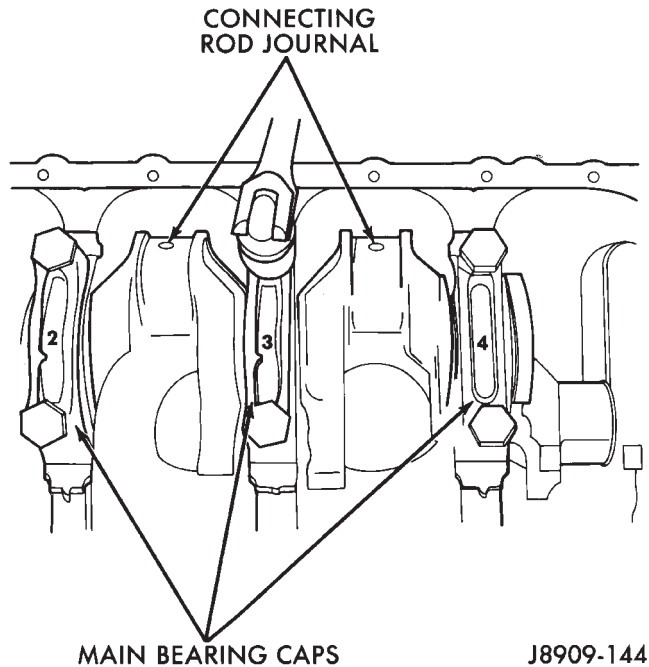
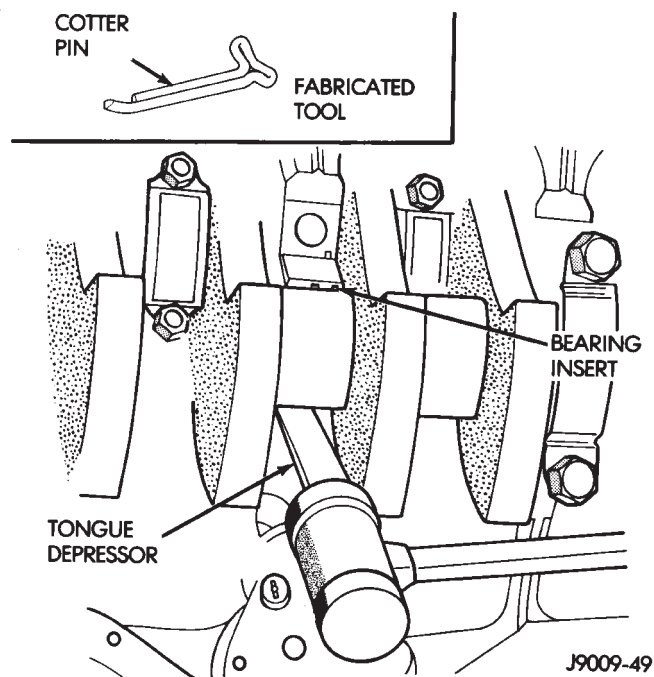

Fig. 54 Removing Main Bearing Caps and Lower Inserts
Fig. 55 Removing Upper Inserts
(1) Disconnect negative cable from battery.
(2) Remove the spark plugs.
(3) Raise the vehicle.
(4) Remove the oil pan and oil pump.
(5) Remove only one main bearing cap and lower insert at a time (Fig. 54).
(6) Remove the lower insert from the bearing cap.
(7) Remove the upper insert by LOOSENING (DO NOT REMOVE) all of the other bearing caps. Now insert a small cotter pin tool in the crankshaft journal oil hole. Bend the cotter pin as illustrated to fabricate the tool (Fig. 55). With the cotter pin tool in place, rotate the crankshaft so that the upper bearing insert will rotate in the direction of its locking tab. Because there is no hole in the No.3 main journal, use a tongue depressor or similar soft-faced tool to remove the bearing insert (Fig. 55). After moving the insert approximately 25 mm (1 inch), it can be removed by applying pressure under the tab.
(8) Using the same procedure described above, remove the remaining bearing inserts one at a time for inspection.